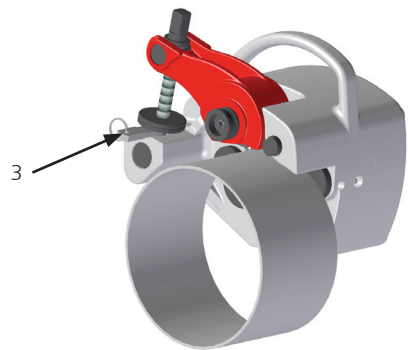

Figure 3
- Once you have tightened the guide screw by hand and the machine is secured on the tube, position the depth gauge (see figure 3, n.3) between the machine and the regulating nut.